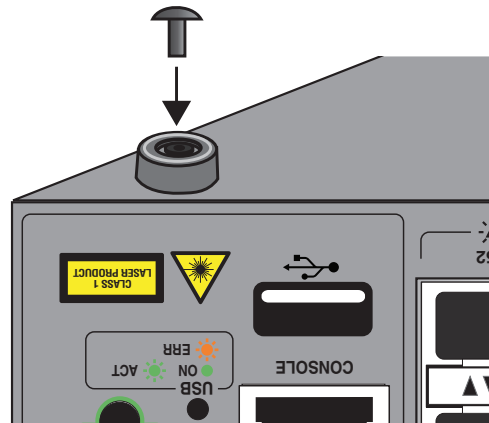

Figure 32. Inserting the Rivet into the Bumper Foot
- Insert the rivet to secure the bumper foot to the base. Refer to Figure 32.